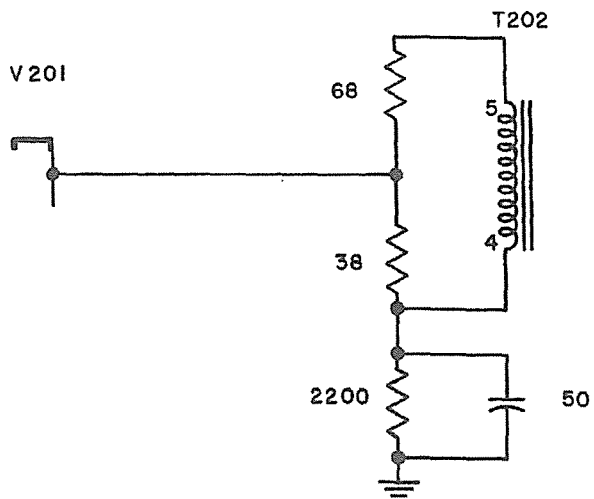

Figure 2-7. 356A-1 Preamplifier, Cue Amplifier Gain Adjustment
**2.3.3.2 356A-1 PREAMPLIFIER.** The gain of the 356A-1 Preamplifier may be increased by reducing the amount of feedback in the amplifier circuit. As supplied, the 356A-1 has an over-all gain of 40 db and approximately 28 db of feedback. With no feedback, it would have 68 db gain. The feedback may be reduced when used as a cuing amplifier by using a resistance divider connected across the output transformer feedback winding. A typical example is shown in figure 2-7. The gain of the amplifier with this modification is 50.5 db, with distortion of less than 1%. The 356A-1 is rated at +18 dbm output; however, the level may be raised to approximately +23 dbm (200 mw) before clipping occurs.